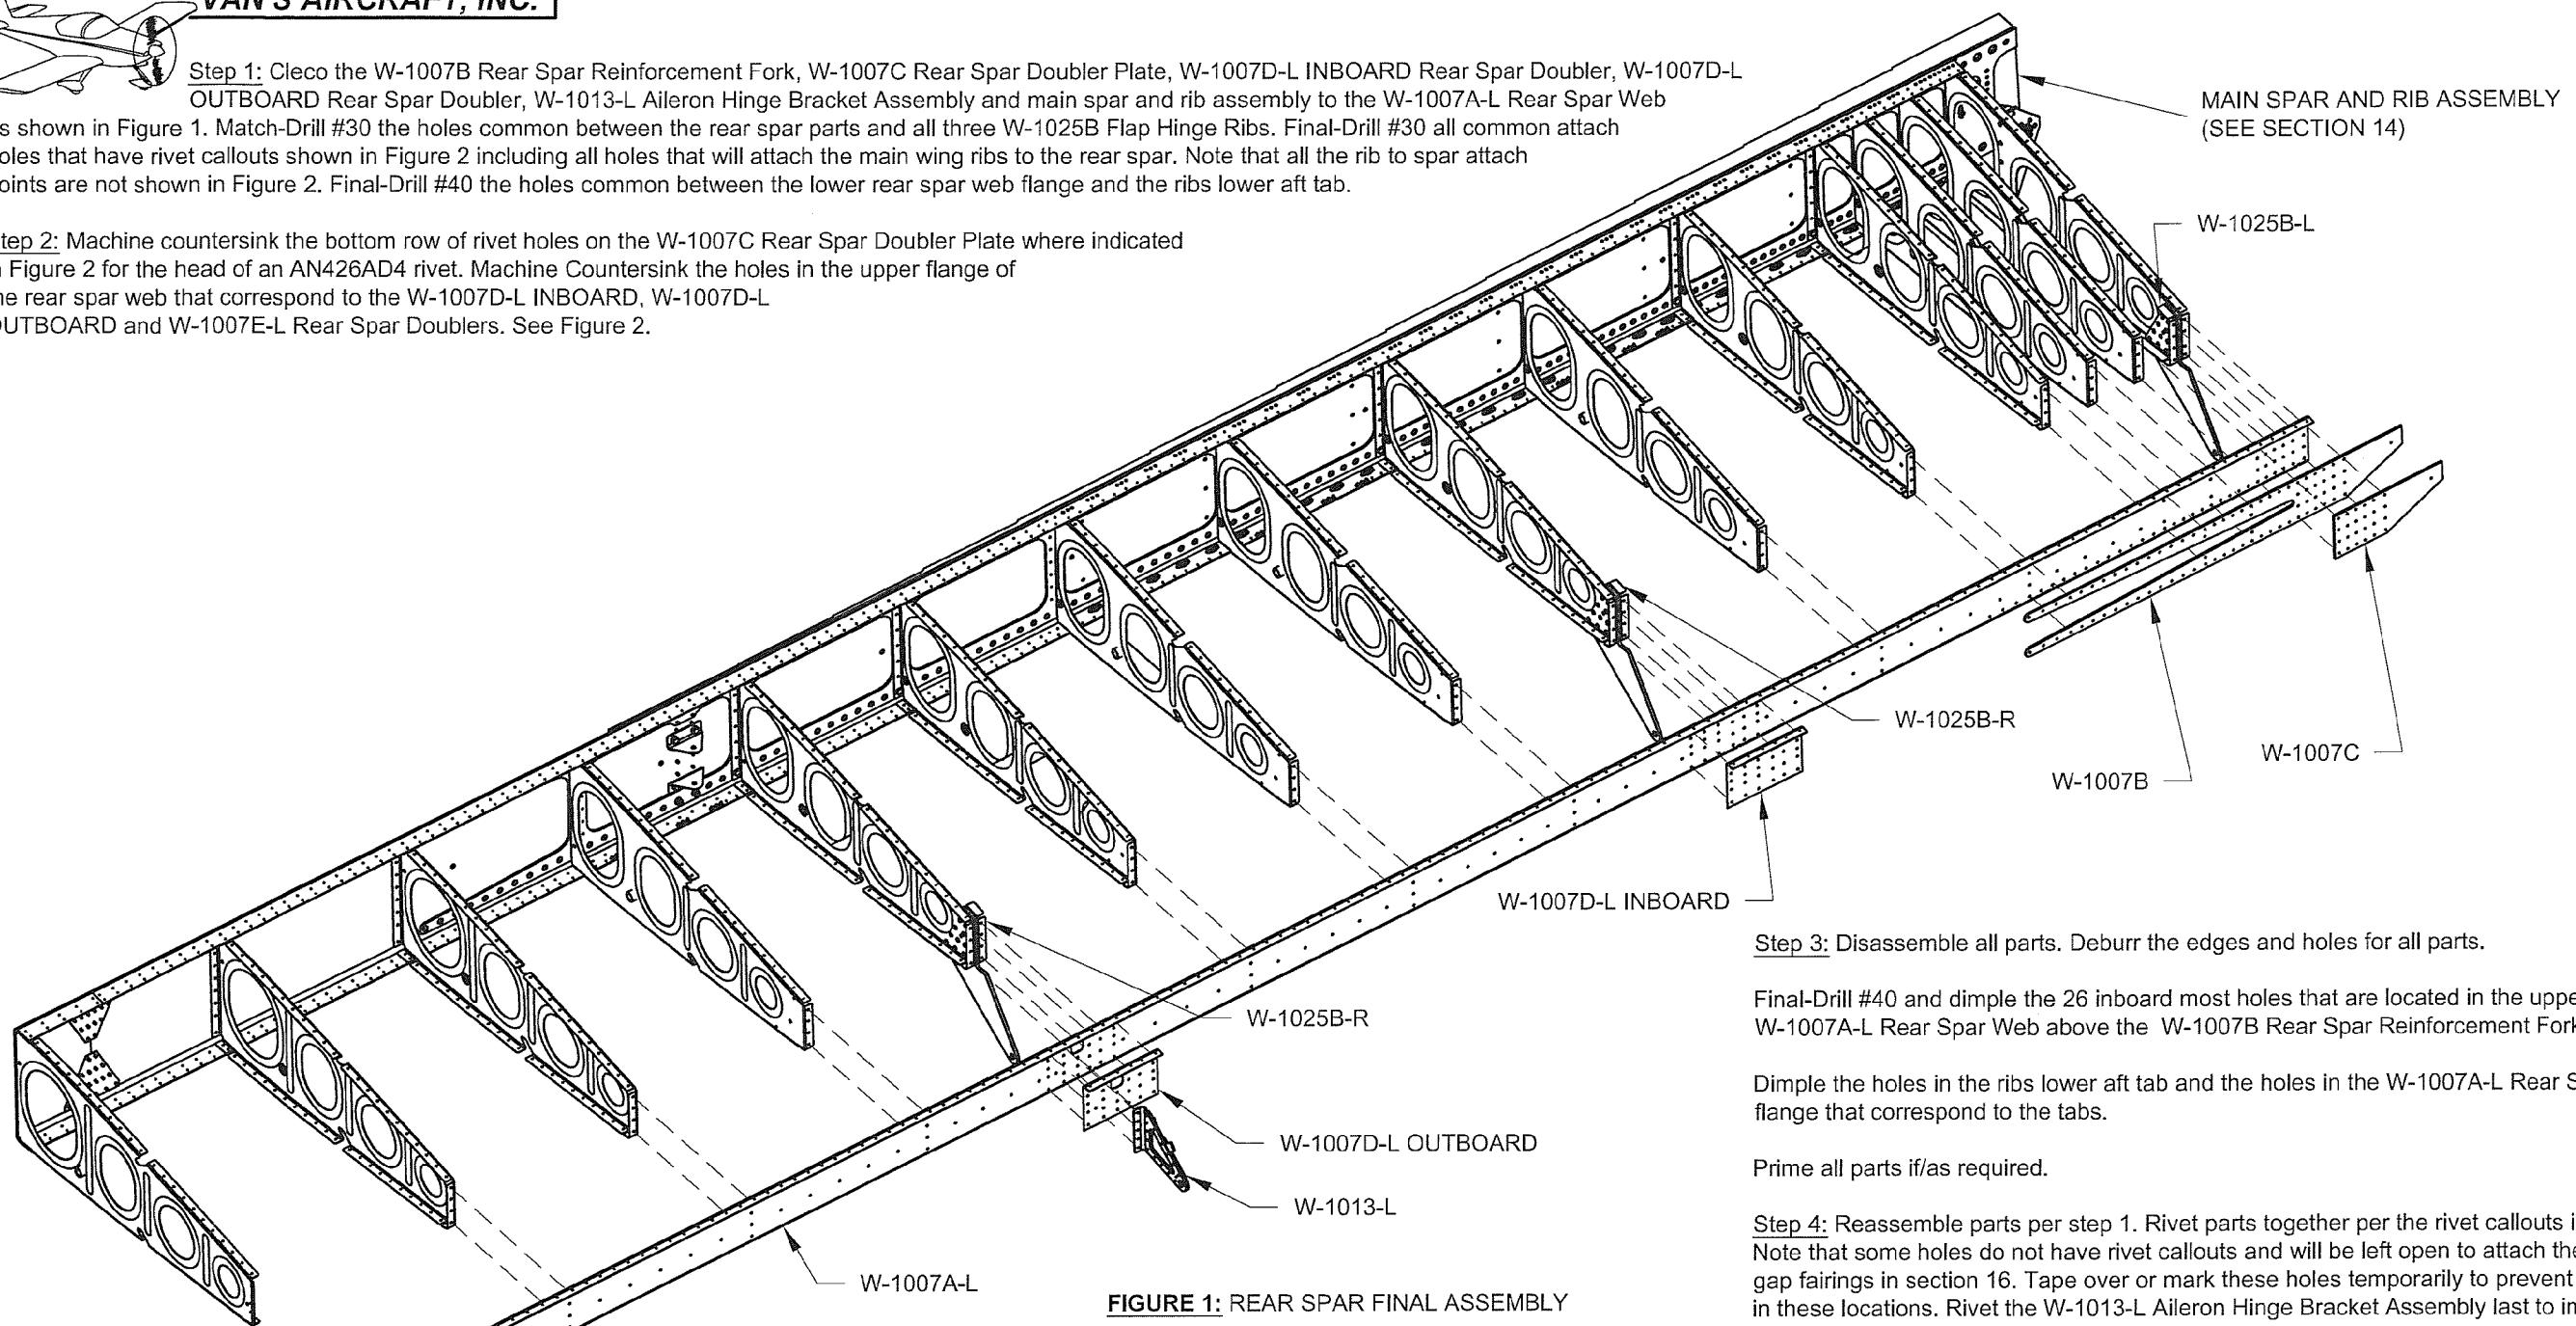

FIGURE 1: REAR SPAR FINAL ASSEMBLY
Step 1: Cleco the W-1007B Rear Spar Reinforcement Fork, W-1007C Rear Spar Doubler Plate, W-1007D-L INBOARD Rear Spar Doubler, W-1007D-L OUTBOARD Rear Spar Doubler, W-1013-L Aileron Hinge Bracket Assembly and main spar and rib assembly to the W-1007A-L Rear Spar Web as shown in Figure 1. Match-Drill #30 the holes common between the rear spar parts and all three W-1025B Flap Hinge Ribs. Final-Drill #30 all common attach holes that have rivet callouts shown in Figure 2 including all holes that will attach the main wing ribs to the rear spar. Note that all the rib to spar attach points are not shown in Figure 2. Final-Drill #40 the holes common between the lower rear spar web flange and the ribs lower aft tab.